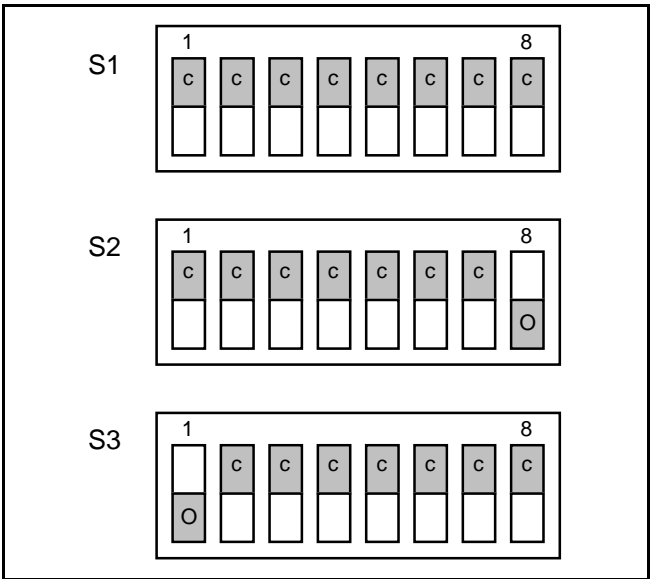

Figure 7 - Test Mode, Low Speed Data/Repeat
To set the transmitter deviation for low speed, the station must be placed in the low speed data test mode. (Refer to Figure 7 for GETC dip switch positioning.) The test mode routes receiver audio and low speed data from the GETC to the transmitter. Be sure that the receiver is squelched when making this adjustment because the receive audio (if any) is still routed to the transmitter.
- 4. Enter the test mode by configuring the GETC dip switches as shown in Figure 7.